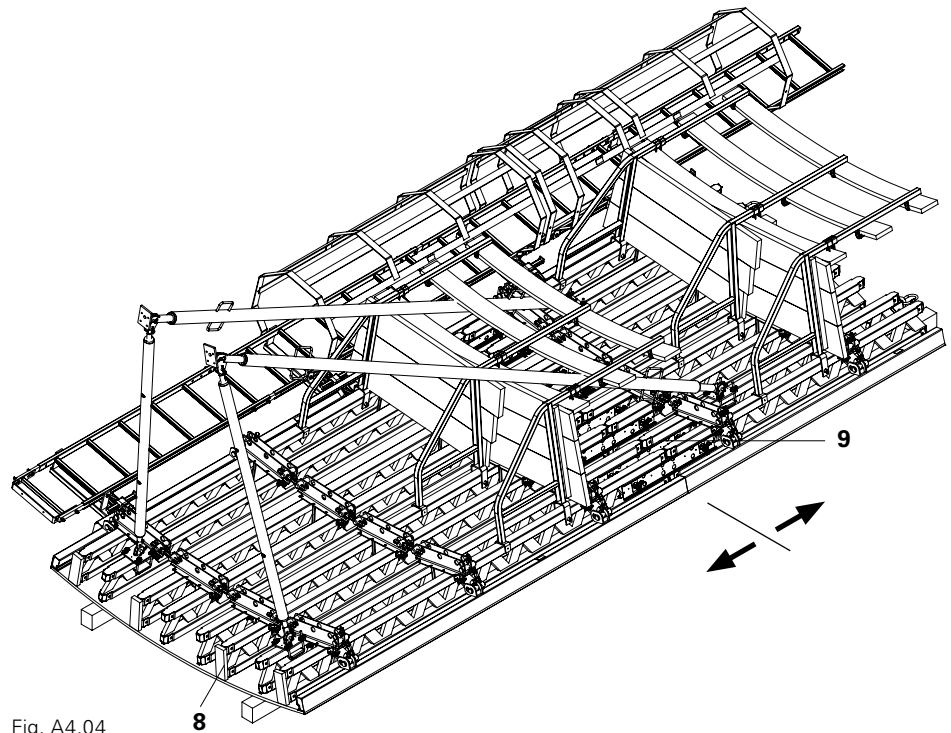

Fig. A4.04
1. Extend unit horizontally over the entire height and mount rubbing boards (8).
6. Mount crane splices (9), push-pull props and kickers to the base panel. (Fig. A4.04)